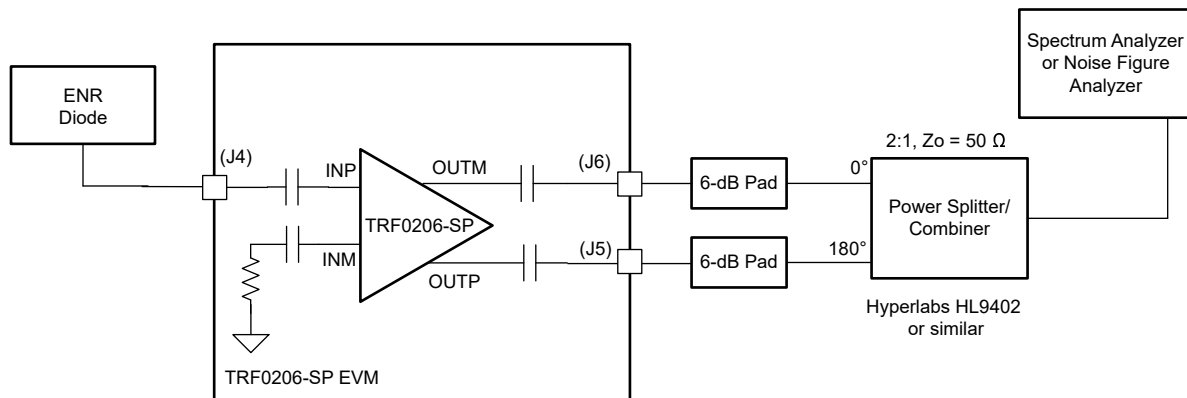

Figure 3-3. Noise Figure Test Setup
1. As Figure 3-3 shows, the traditional Y-factor method can be used for the NF measurement using a noise diode and a spectrum analyzer (or a noise figure analyzer).